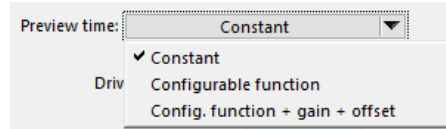

Figure 20. Options for defining preview time.
- ⑤ Control to set the preview time. A drop-down control is used to select between different options for defining the preview time (Figure 20).